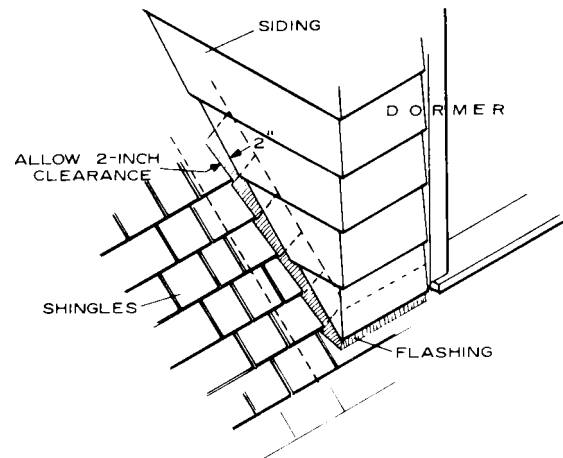

Figure 6. Separate siding from shingles with metal flashing.
4. Use metal flashing to separate siding and roofing materials, and maintain at least two inches of clearance between siding and roofing (figure 6).
valleys and dormers and around any vents or chimneys to reduce potential for water penetration into wood roof sheathing or framing (figure 6).